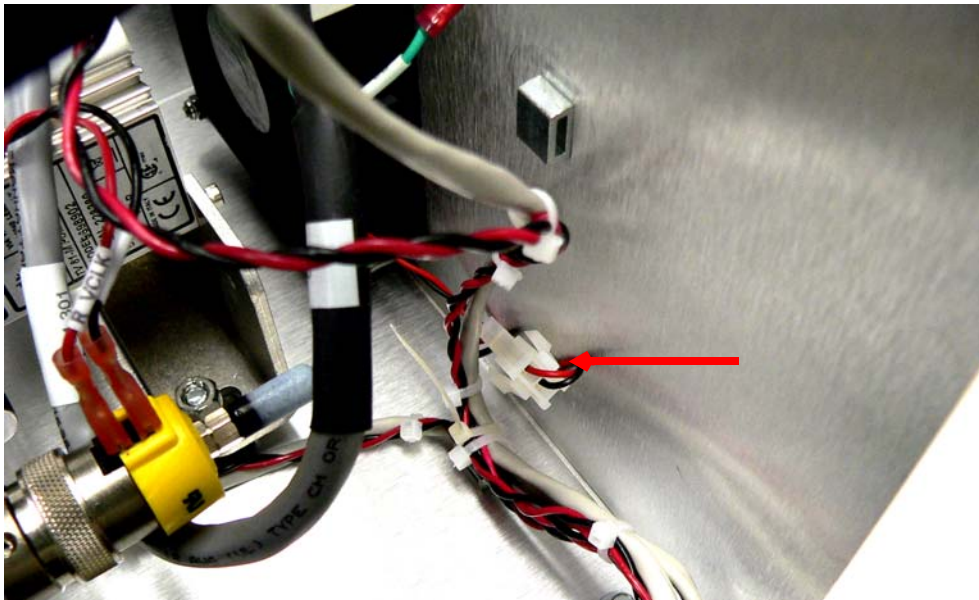

Figure B-10 Fan Connector
4. Disconnect the white fan connector (Figure B-10).
8. Insert new fan and reinstall the four (4) sets of washer/nut and spacers and tighten front mounting screw.
9. Reconnect the white fan connector (Figure B-10 on page B-8).